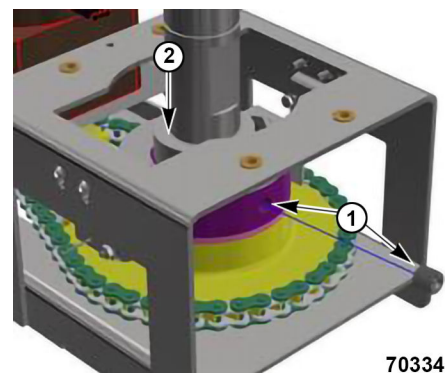

Fig. 95
- 4) Rotate set collar to access set screw (1, Fig. 95), then loosen set screw.
- 5) Remove and retain shims located on top of snap ring (2, Fig. 95).